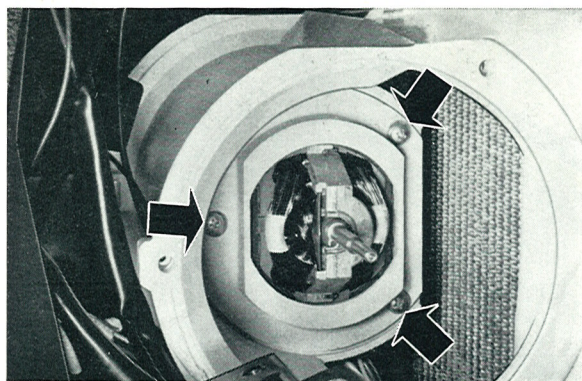

Fig. 8-75. Screws for blower motor retainer
4. Remove the blower motor retainer (Fig. 8-75).